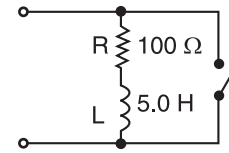

Fig. 9.28
**Solution.** The conditions of the problem are represented in Fig. 9.28.